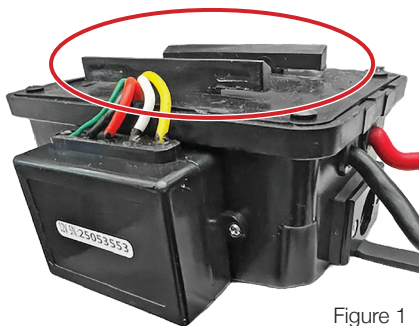

Figure 1
- Attach the #9 Control Module to the winch assembly using the included clamps. Slide each clamp through the slots at the body of the control module's case. Fig.1